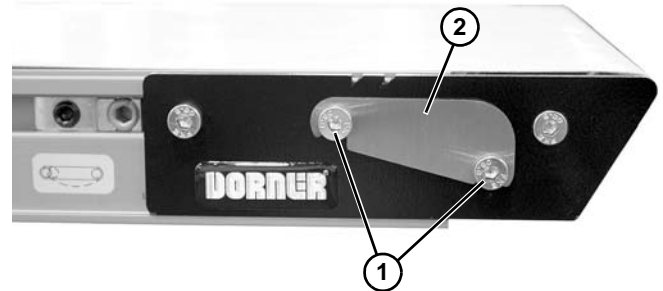

Figure 26
1. Loosen screws (Figure 26, item 1).
2. Install dust cover (Figure 26, item 2) behind screw heads and over access slot. Tighten screws (Figure 26, item 1).